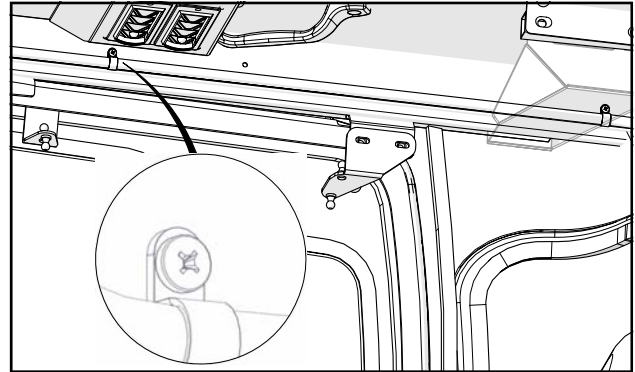

Fig. 4.5a (Routing Drain Tubes)
- 4.5 Route the Air Conditioner's drain tube rearward along the brackets extending down from the roof. Fasten the drain tube to the roof brackets with 1/2" p-clamps, machine screws and nuts as shown in Figure 4.5a. Through holes are provided for mounting the p-clamps.